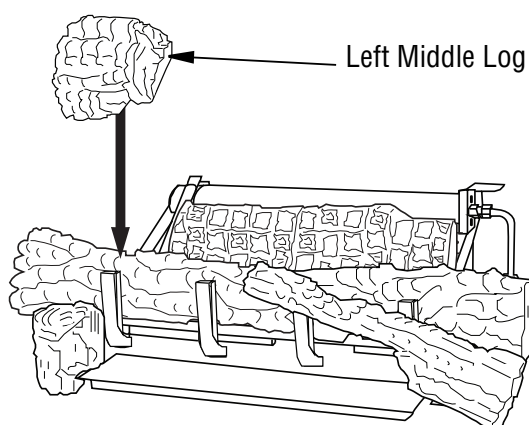

Figure 33 - Installing Left Middle Log
- The left middle log (18" D-066, 24" & 30" D-040) has a groove on the bottom to sit on the chassis and has to sit on the tab on the back of the left front log as shown in **Figure 33**.